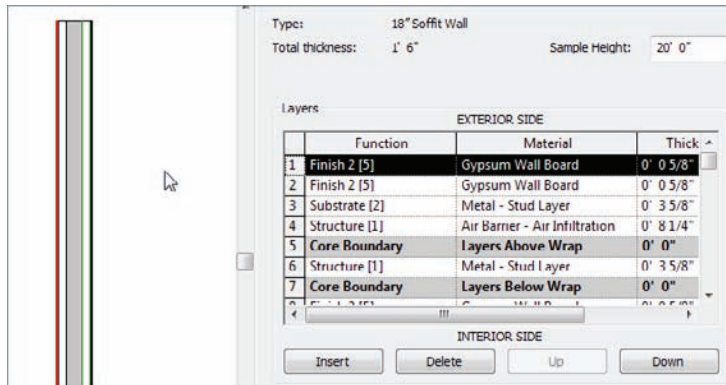

FIGURE 16.22 The wall layers
15. Set Thickness to 3 5/8" (92mm) (see Figure 16.22).